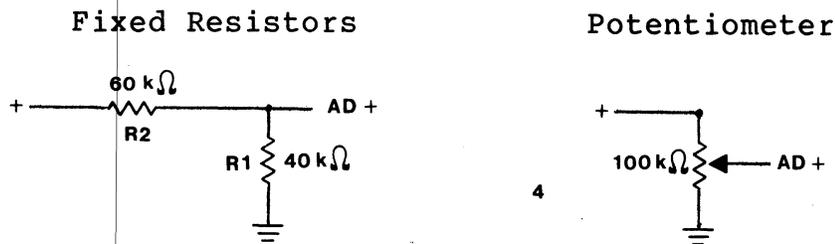

Figure 4: Attenuation of a High Voltage Signal
Direct current (DC) voltages larger than ± 4 Volts can easily be attenuated by means of fixed or variable resistors (potentiometers). For example, a 10 Volt signal could be attenuated to 4 volts by the circuits in Figure 4: